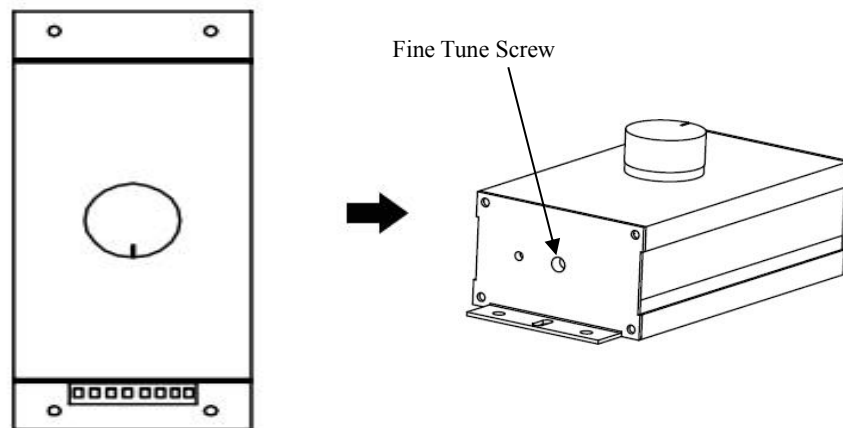

Fig. 6 Fan Speed Adjustment
2. **Set the minimum fan speed limit:** As shown in Fig. 6, the minimum fan speed can be fine-tuned by tuning a screw on the side of BRT-785 during initial installation. Turn on the fan and rotate the speed control knob to run the fan at the lowest speed. Then, turn the screw using a screw driver to obtain a minimum fan speed as desired.